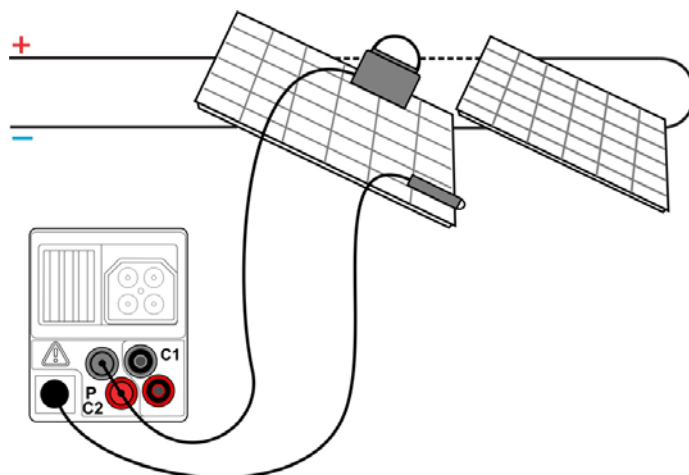

Figure 6.13: Measurement of environmental parameters
- ❑ **Connect** environmental probes to the instrument (see figure 6.13).
- ❑ **Connect** the item to be tested (see figure 6.13).